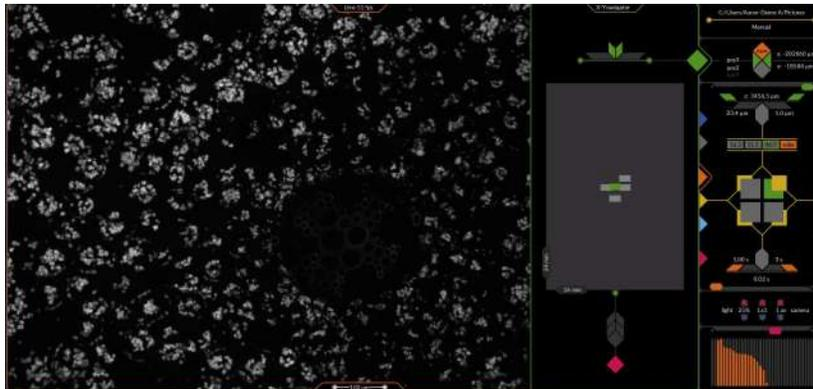

Figure 5.3.4.3 4 tiles defined in X-Y Navigator Screen
You should now have 4 regions defined in the XY Navigator in a diamond shape as shown in Figure 5.3.4.3
8. Using the mouse, drag and drop a region of interest that covers all 4 of these individual regions to create one larger region as shown in Figure 5.3.4.4